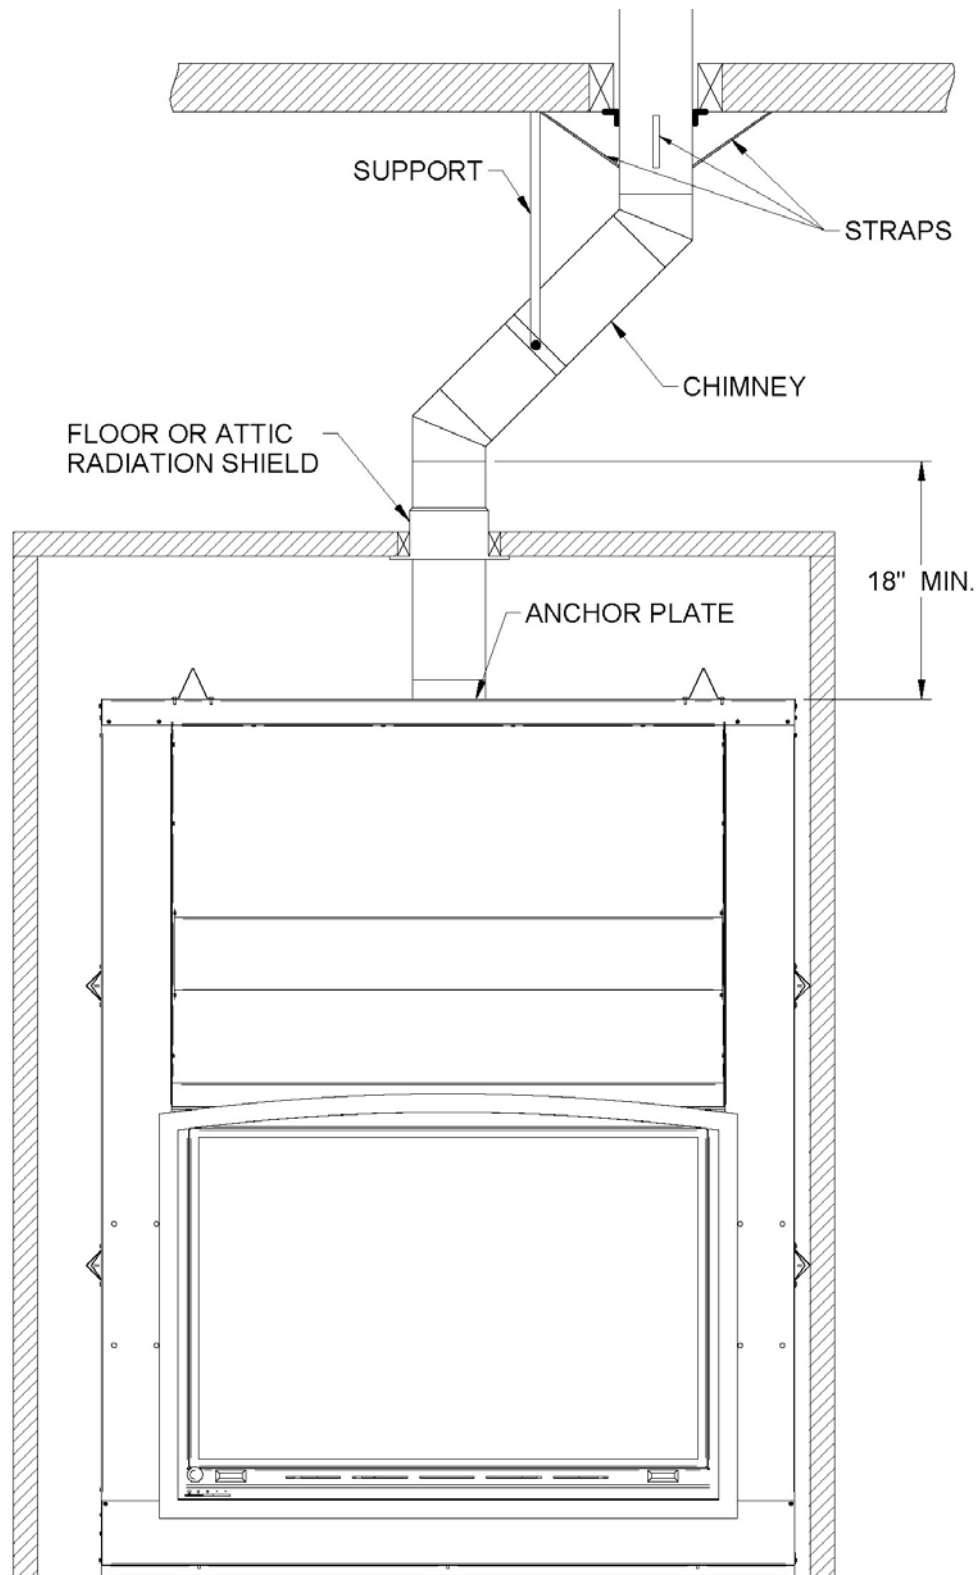

Figure 31
1. There must be a minimum vertical length of 18" starting from the fireplace before putting an deviation/elbow. Install the first elbow; turn it in the required direction. Secure it to the chimney according to the chimney manufacturer's instructions. In many cases, it is recommended to secure connections with three (3) ½" (12 mm) metal screws.
2. Install the necessary chimney lengths to achieve the required offset. Lock the chimney lengths together according to the chimney manufacturer's instructions. In many cases, it is recommended to use three (3) ½" (12 mm) metal screws. If the offset length is made of two (2) chimney lengths or more, many chimney manufacturers may require that you use an offset or roof support halfway up the offset. If penetrating a wall, install a wall radiation shield supplied by the chimney manufacturer (voir **Figures 31 et 32**).